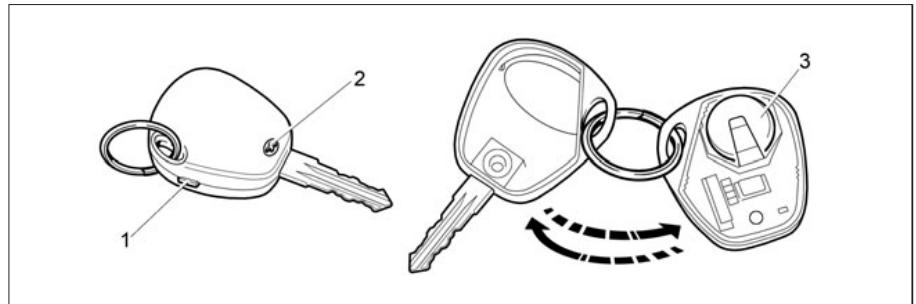

Fig. 56. The remote control battery replacement
- open cover (Fig. 56) on the control panel, shifting it in the arrow direction;